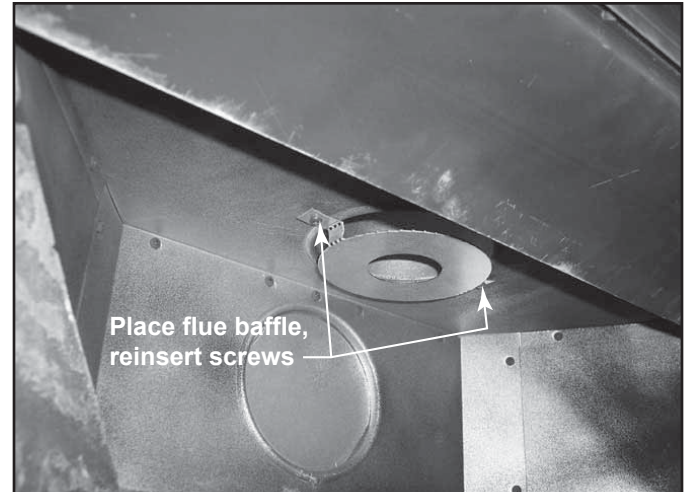

Figure 4.17 12-30 Foot Vertical Run
- The flue baffle will be turned to install below the level of the firebox top for 12-30 ft. vertical runs of vent. See Figure 4.17.